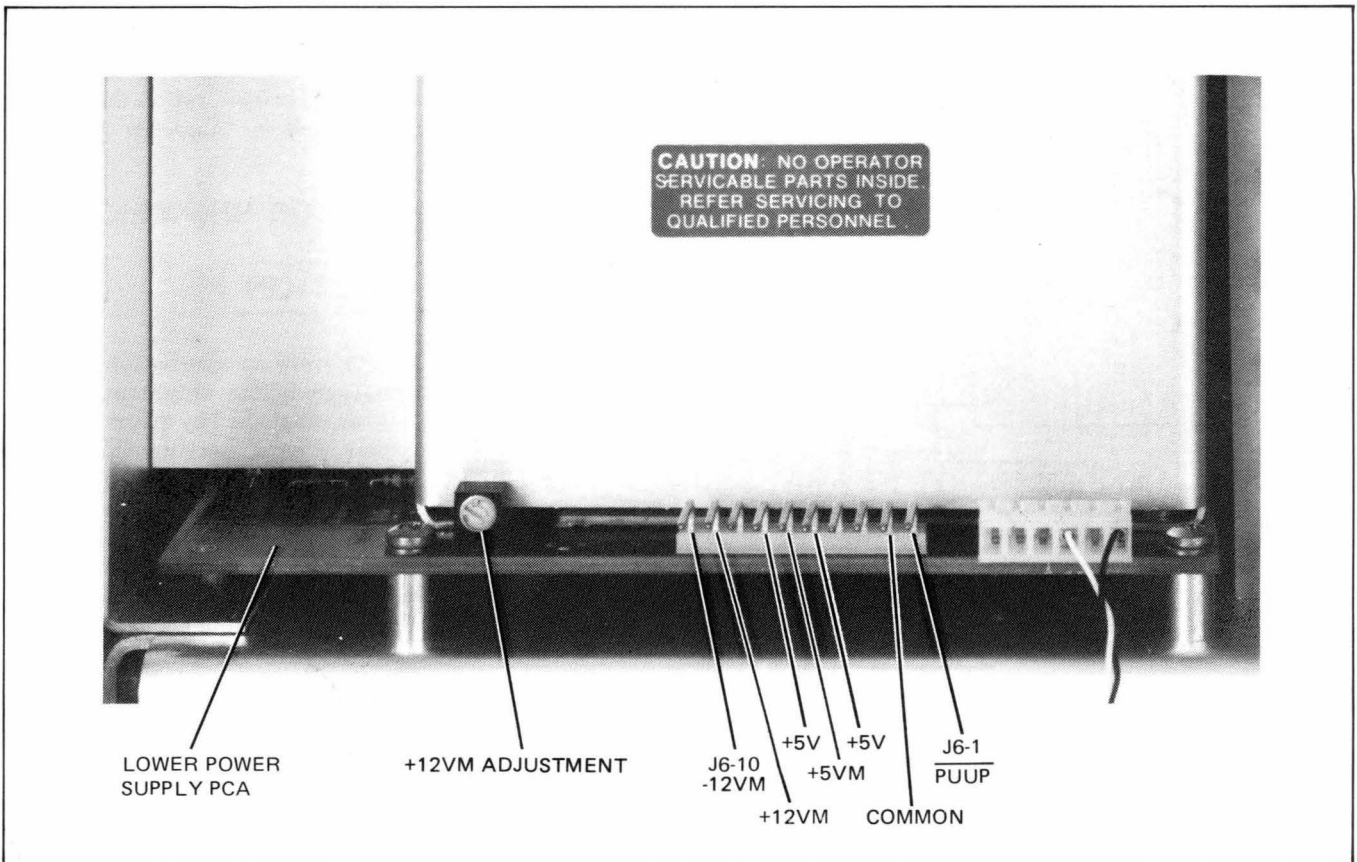

Figure 2-10. Power Supply Adjustment and Voltage Test Points
- e. Connect positive lead of digital voltmeter to J6-9 (+ 12VM test point) and connect common lead to J6-2 (common). (See figure 2-10.)
\*J6 is mounted on lower power supply PCA. (See figure 2-10.)